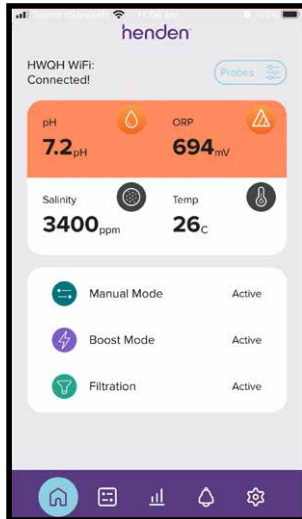

Figure 9.48
- Once back at the dashboard “Boost Mode Active” will now appear (refer Figure 9.48).